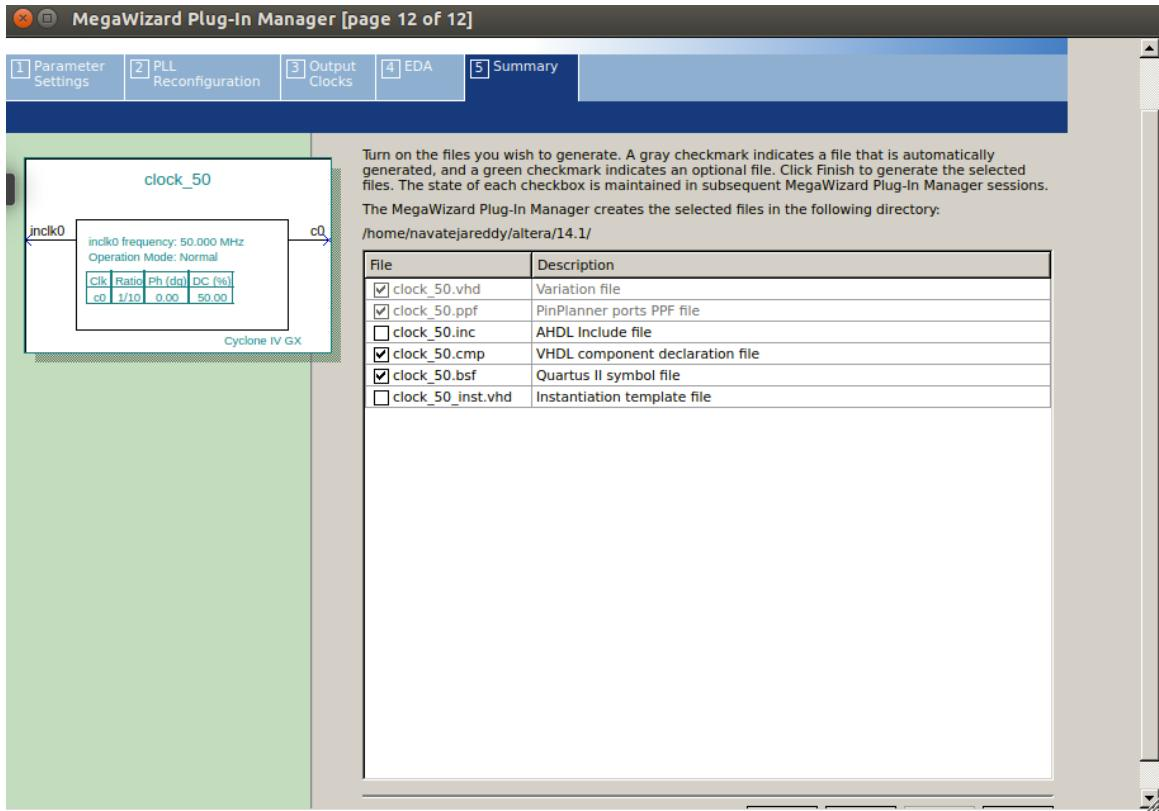

fig 3.1.11
28. Choose summary. Select file **clock_50.bdf** and click finish. See fig 3.1.11